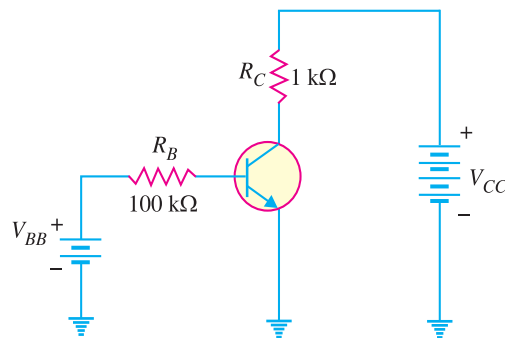

Fig. 8.74
14. A base current of 50 μA is applied to the transistor in Fig. 8.74 and a voltage of 5V is dropped across R_C . Calculate α for the transistor. [0.99]